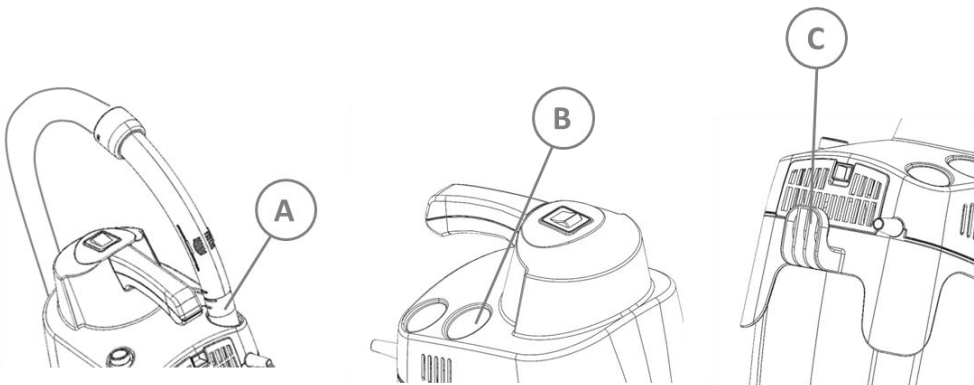

Figure 12
23. All the accessories can be stored on the machine. See figure 12
- a. Place the hand tube in the holder for hand tube (A)
- b. Place the crevice nozzle with brush head (B)
- c. Place cord on cord hook (C)